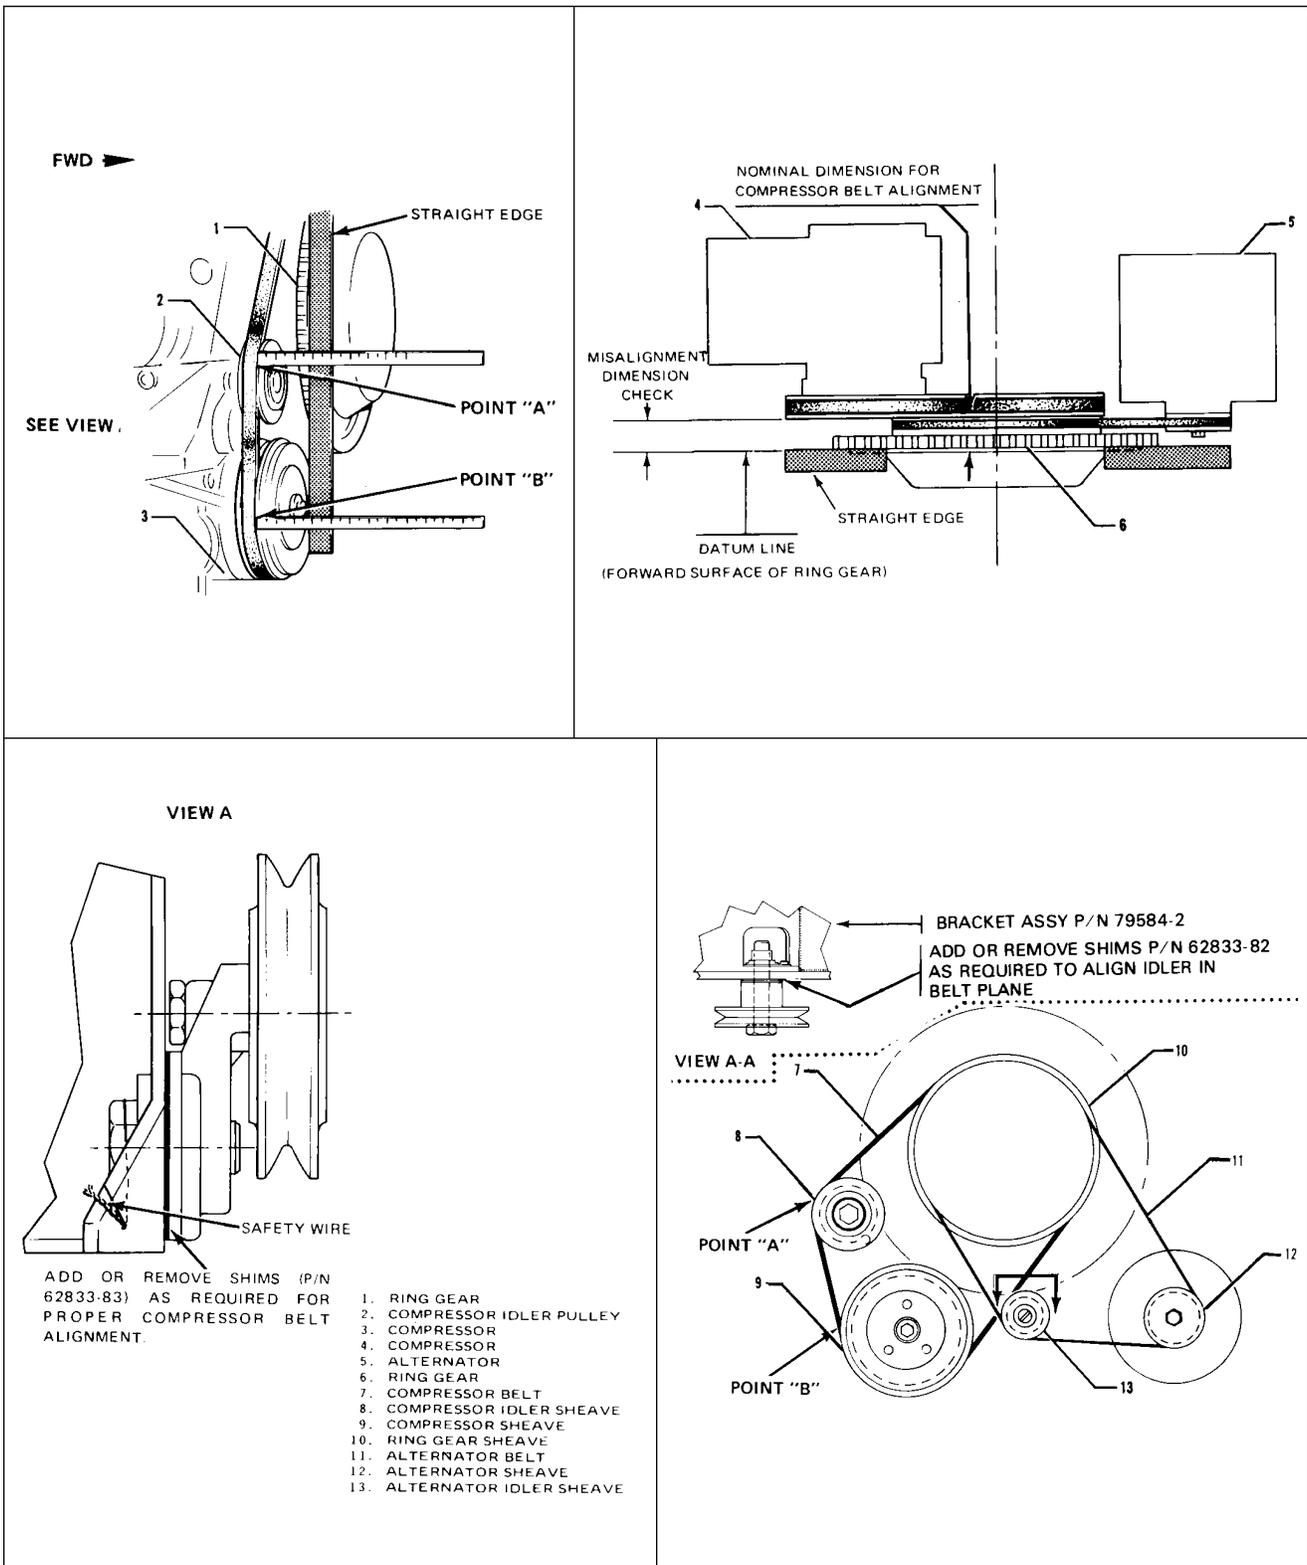

Figure 21-15. Compressor and Alternator Belt Installation (PA-28RT-201)
(Refer to Figure 21-15.) (PA-28RT-201)
4. Route the belts to the proper pulley sheaves as shown in Figure 21-15.
- B. Obtain a basic measurement from the top of the ring gear by measuring the width of the starter ring gear plus the dimension from the forward machined surface of the ring gear to the forward edge of the compressor drive belt. ( Refer to Figure 21-15.)
6. Compressor Belt Alignment: ( Refer to Figure 21-15.)
7. Alternator Belt Alignment: (Refer to Figure 21-15.)